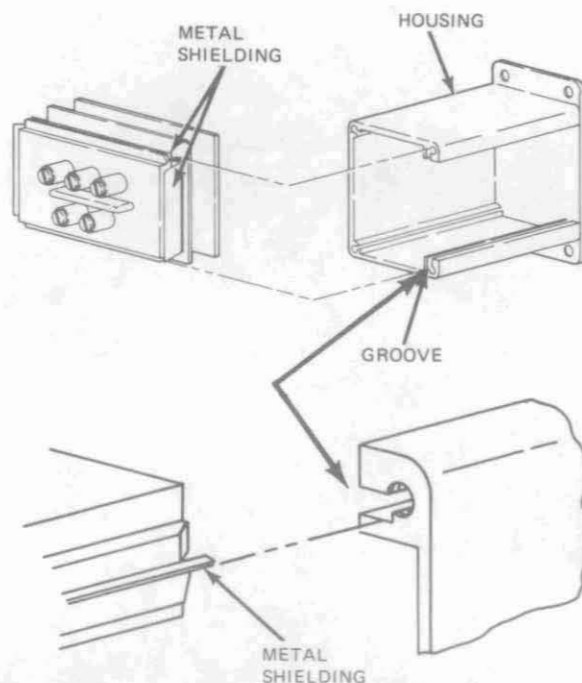

Figure 11
If the electro-magnetic interference protection of the transmitter is to be maintained, the flange of the metal shielding and the flange of the terminal board must fit in the groove of the housing as shown in Figure 11.
1. While compressing flange of shielding, as shown in Figure 11: